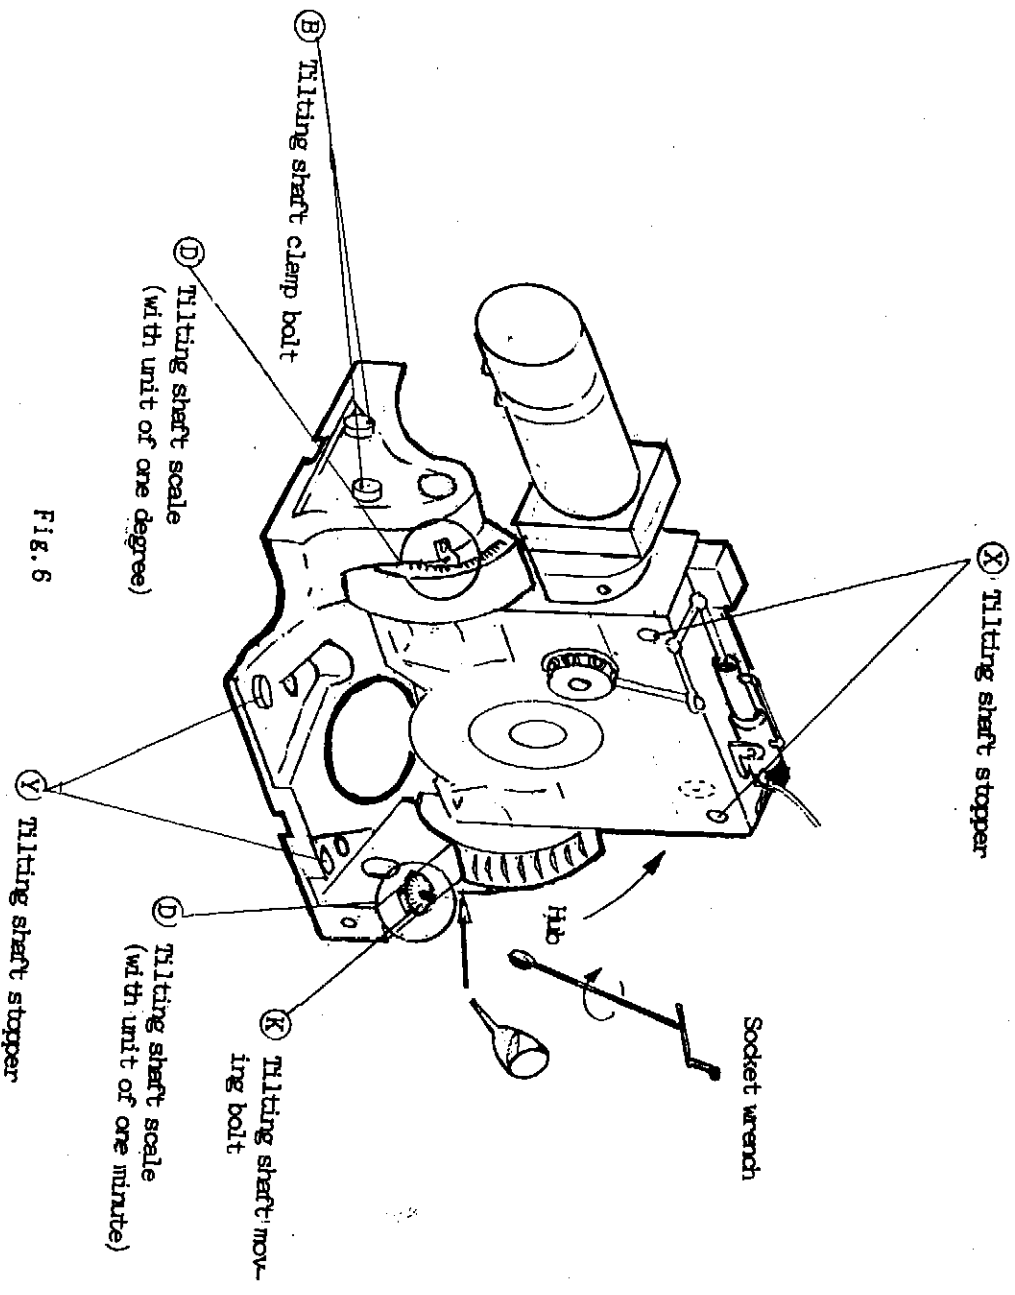

Fig. 6
Loosen the four tilting axis clamping bolts (B) (both sides) of Fig. 6 and the table can be moved toward vertical position when the tilting axis moving bolt (K) is turned clockwise by using the socket wrench, and it can be moved toward horizontal position when the bolt (K) is turned counter-clockwise. The scales with unit of one degree and unit of one minute are provided at the (D) and (D) position of Fig. 6 respectively. Move the table to a proper position and tighten the four tilting shaft clamping bolts (B), thus the movement of tilting shaft is completed.
- 1) Loosen the four tilting shaft clamp bolts **(B)** on both sides and move the tilting shaft to the horizontal position by using the socket wrench (to the position of Fig.6 where the table does not move any more caused by contact of the tilting shaft stopper **(X)** with the tilting shaft stopper **(Y)**.